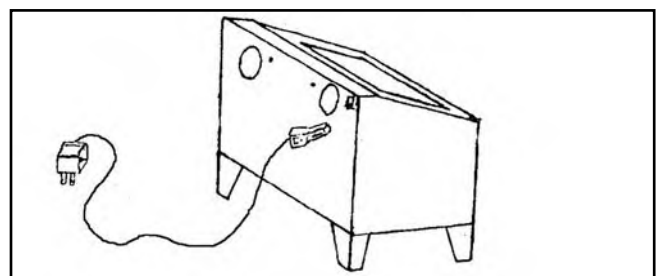

Figure 8. Light assembly.
8. Plug in the AC/DC adapter (**Figure 8**).